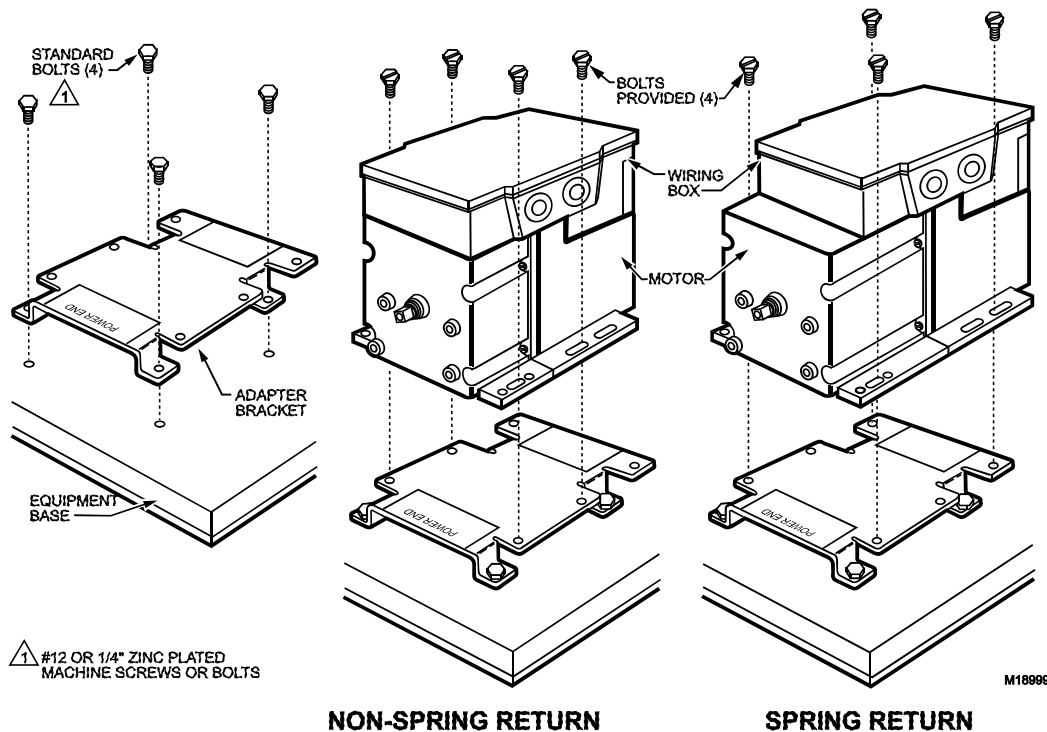

Fig. 3. Mounting the motor with an adapter bracket.
2. Using the provided bolts, mount the motor to the bracket threaded holes. See Fig. 3.